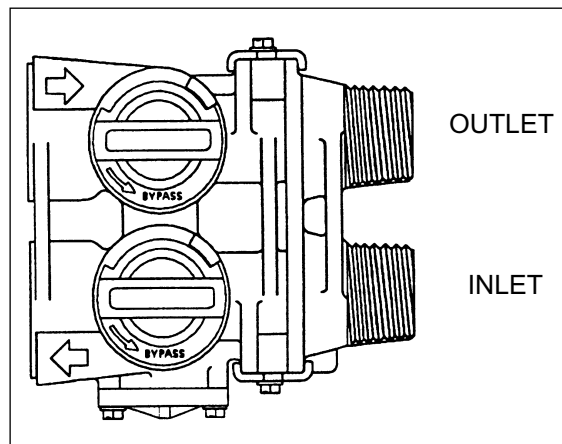

Figure 7
11. Wait approximately four (4) hours for water in brine tank to fully dissolve salt.
12. Move the bypass valve to the normal service position. (See page 5, Figure 7)
Manual Bypass (Figure 7)